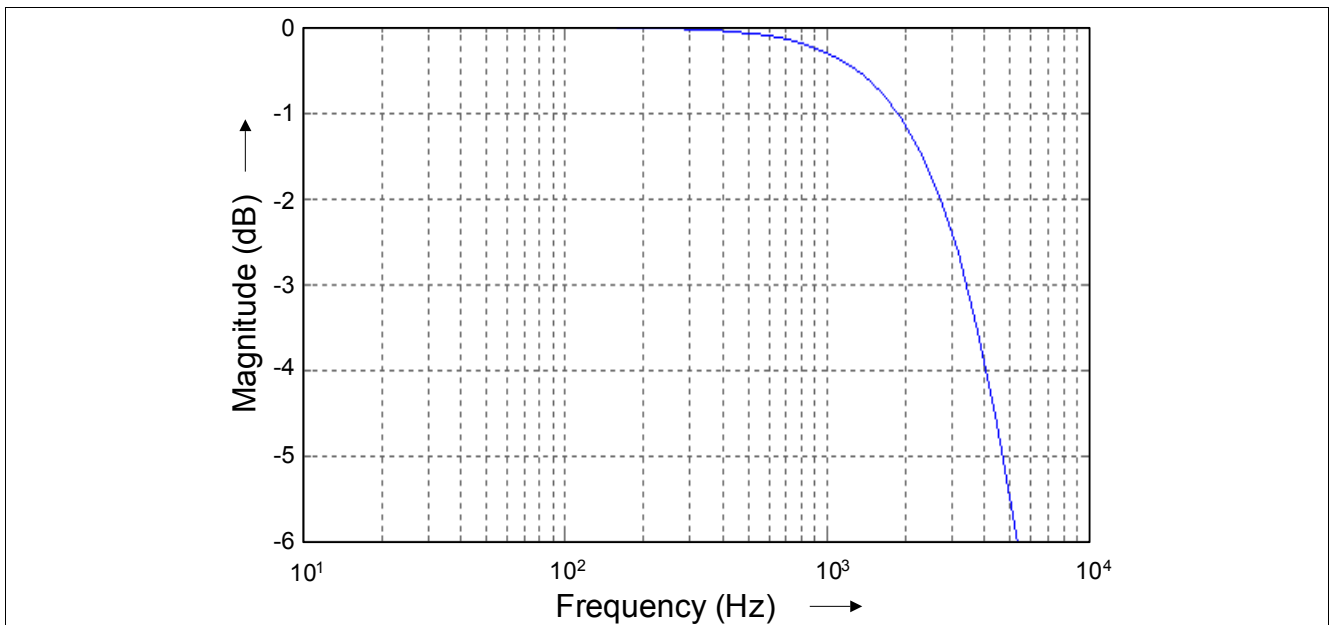

Figure 7-2 DAC Input Filter (Magnitude Plot)
7) More information, see **Figure 7-2 “DAC Input Filter (Magnitude Plot)”** on Page 16.